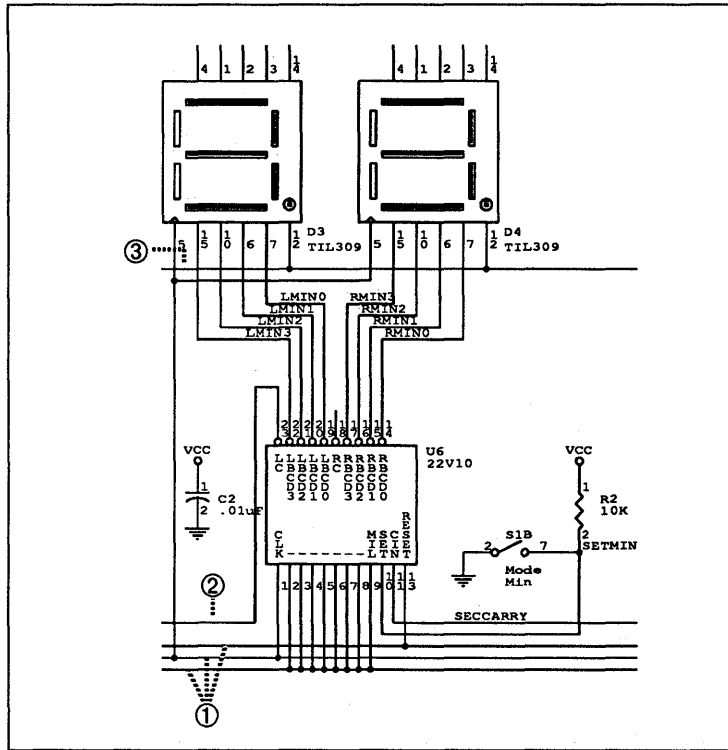

Figure 6-5. Minutes area of the clock logic. The callouts refer to the step numbers in this section.
1. Connect the bottom three horizontal wires to the hours logic (figure 6-5).